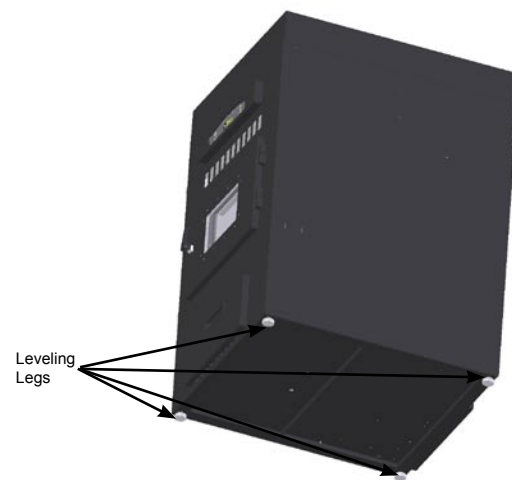

FIGURE 4
2. Locate the leveling feet on the bottom of the UBB. See Figure 4.